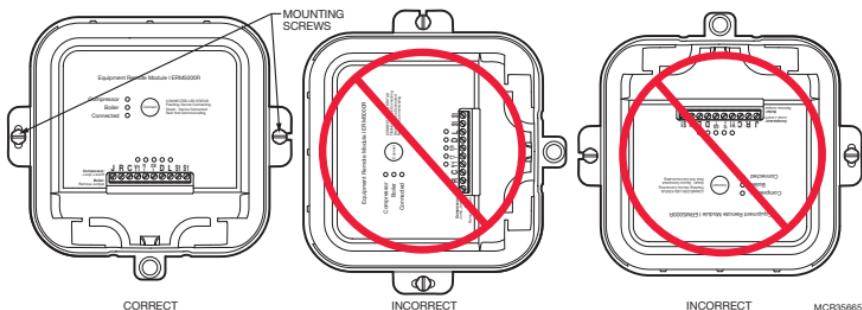

Fig. 11. Mounting orientation.
9. Use two screws and wall anchors to attach the ERM to the exterior wall near the compressor. The location should be **at least 3 feet above ground** and **oriented with the two wire exits facing downward**. See Figs. 11 and 12.